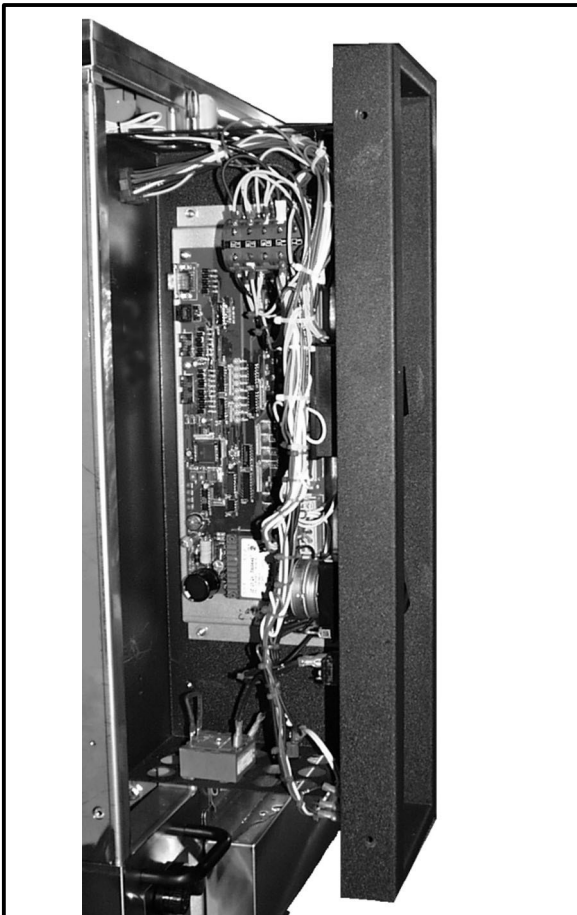

Figure 16
2. Remove (2) screws and slide the control panel forward. See Figure 16.